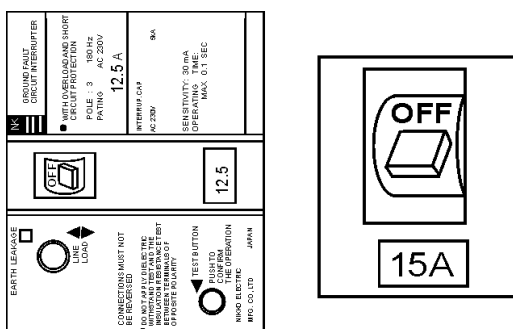

Figure 25. 60 and 180 Hz Breakers (Off)
1. Place both the 60 and 180 Hz circuit breakers (Figure 25) in the **OFF** position.